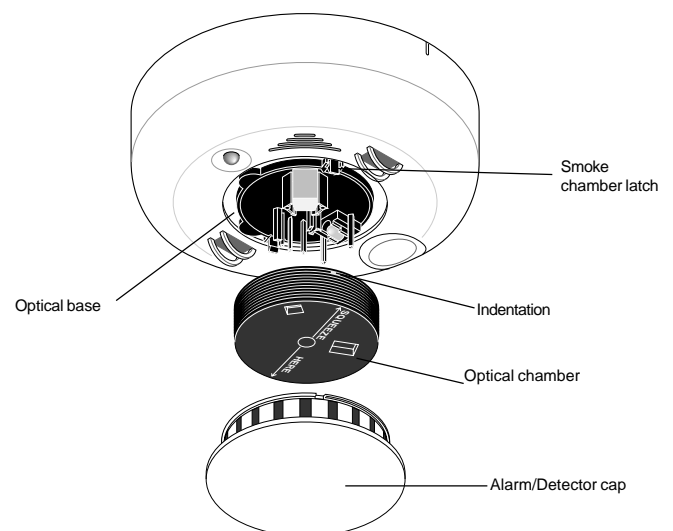

Figure 5 - Alarm/Detector Parts
5. Press in on the sides of the field replaceable optical chamber and pull it up and away from the optical base and discard. See Figure 5.